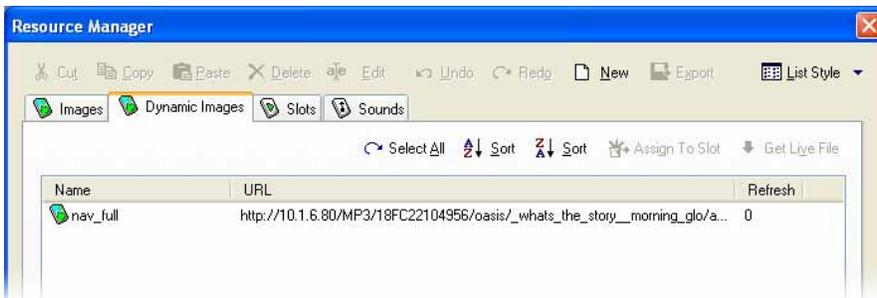

Figure 5
- d. In the "Resource Manager" you will see the Dynamic Image you created (Figure 5). Repeat the above steps for each separate resource you need to create.